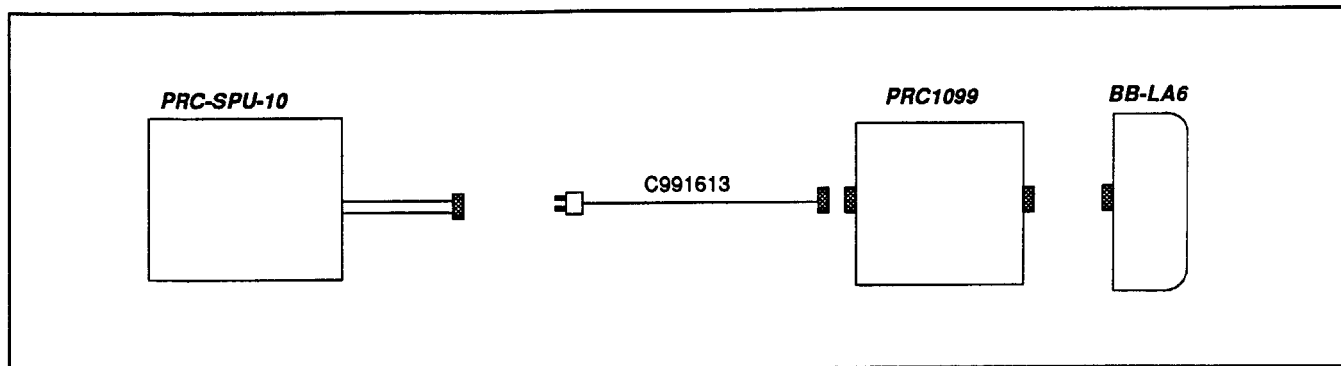

FIGURE B-6.
a. The standard method of battery charging using the PRC-SPU-10 is shown in Figure B-6.